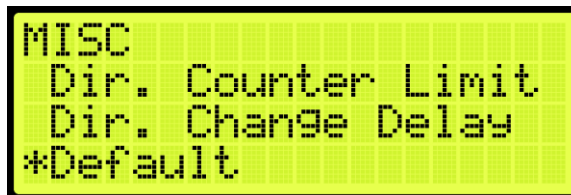

Figure 469: MISCELLANEOUS Menu – Default
- From the MISCELLANEOUS menu, scroll and select Default (See Figure 469).